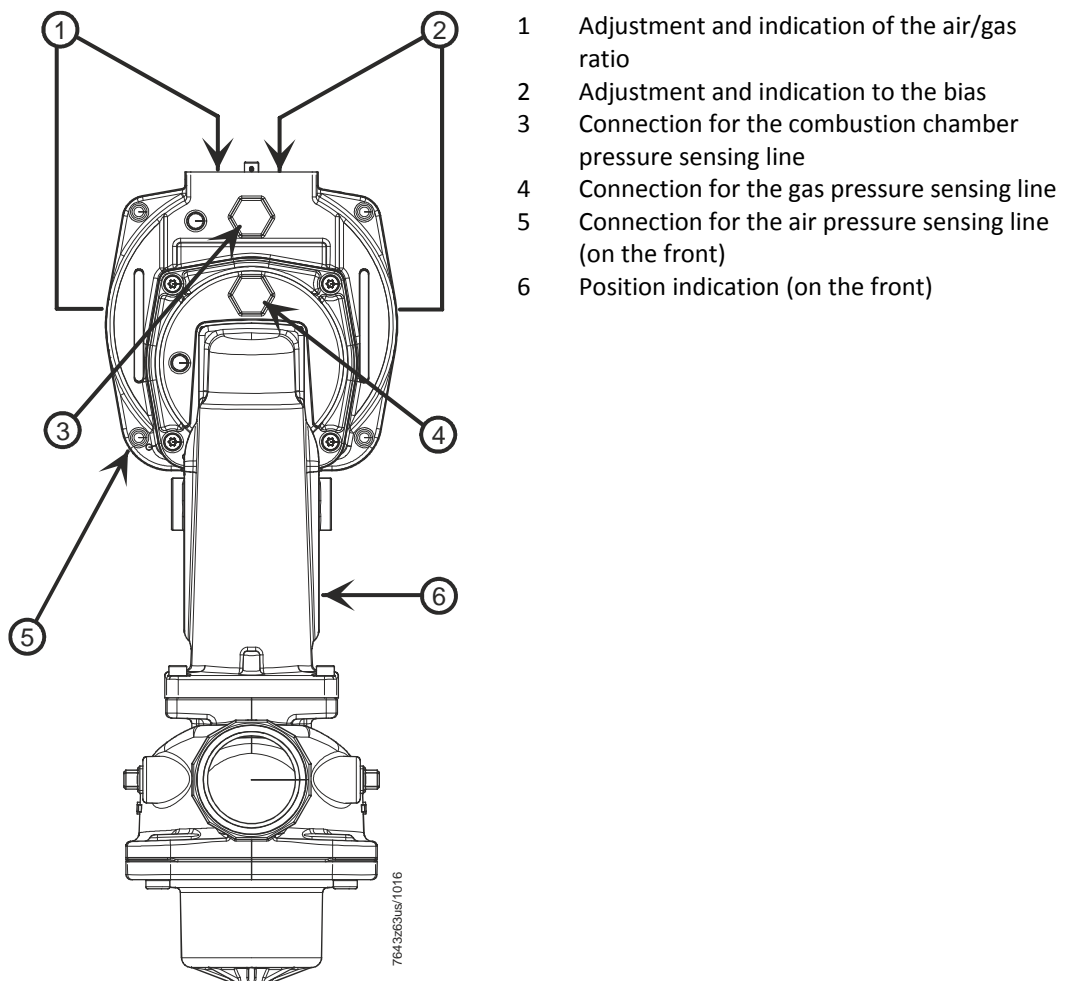

Figure 6. SKP75.xxxUx Connections and adjustments
4. Return to low fire position and measure the CO₂ or O₂ content in the flue gases. If necessary, correct the setting by adjusting screw 2 (figure 6) until optimum values are obtained.